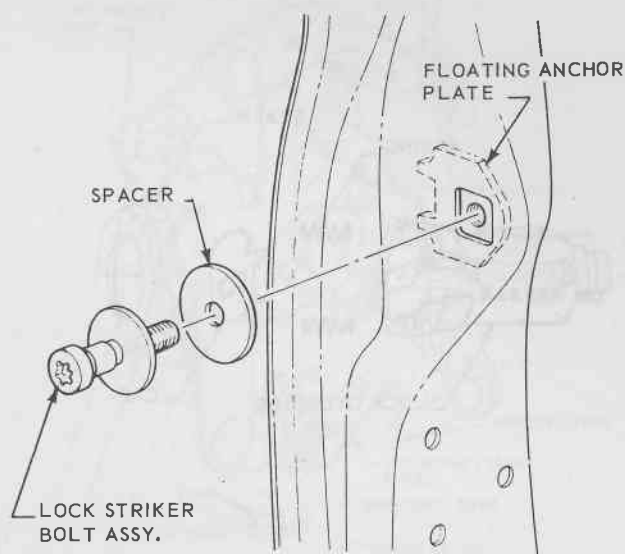

FIG. 7 - 9
3. Remove nuts securing sliding glass cam assembly to door inner panel (see Fig. 7 - 1, 7 - 2 or 7 - 3) then remove cam assembly.